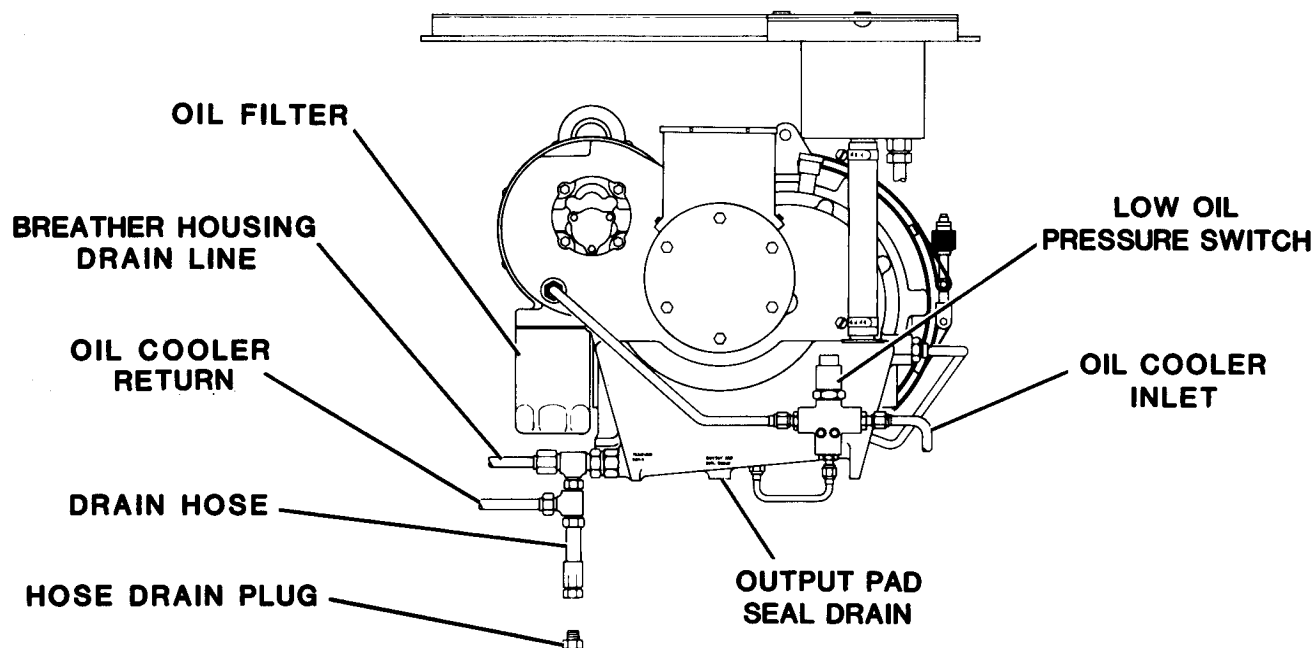

Figure 4-7. Lubrication by Organizational Maintenance
**4-8. LUBRICATION BY ORGANIZATIONAL MAINTENANCE.** Lubrication tasks not covered by the lubrication order (figure 3-2) consist of changing the oil and oil filter. Refer to figure 4-7.